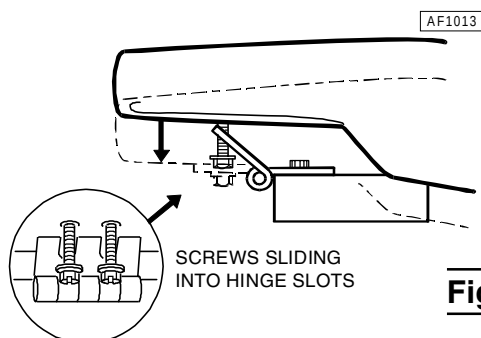

**Figure 10**
5. Rotate the hinges down toward the hex screws while allowing the screws to slide into the slots in the hinges (See Figure 10). Tighten the screws using a screwdriver or 3/8 inch socket.